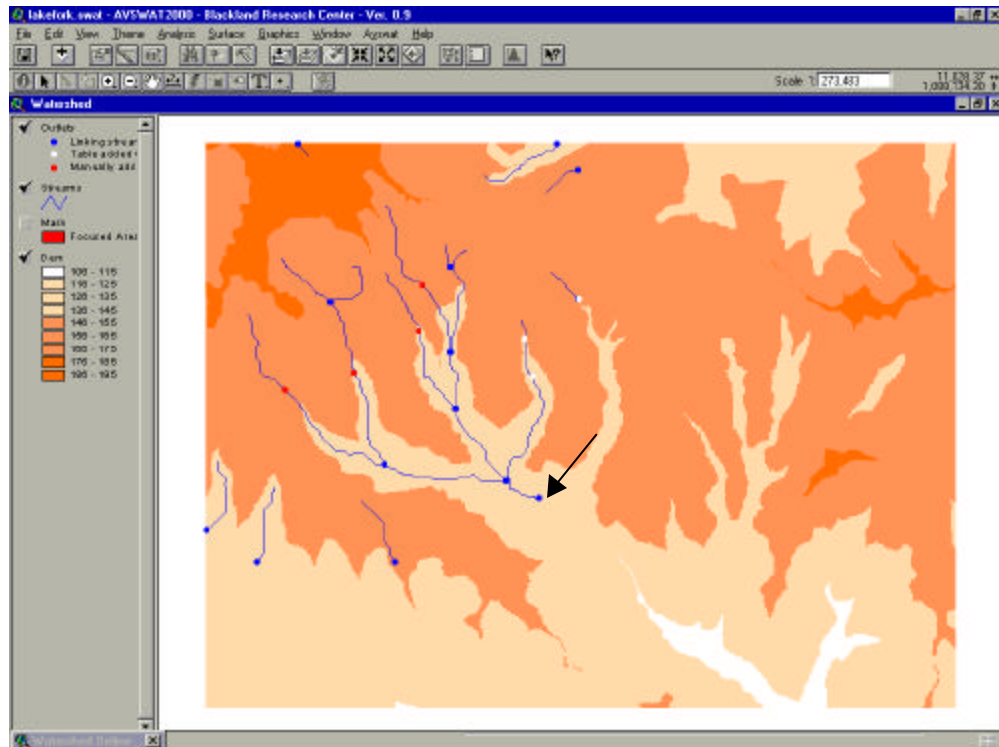

Figure 15.25
21. Select the subbasin outlet located on the lower right (Figure 15.25) to be the subbasin outlet by holding down the left mouse button and moving the mouse to form a box around the outlet dot. The outlet dot will turn yellow when it is selected.